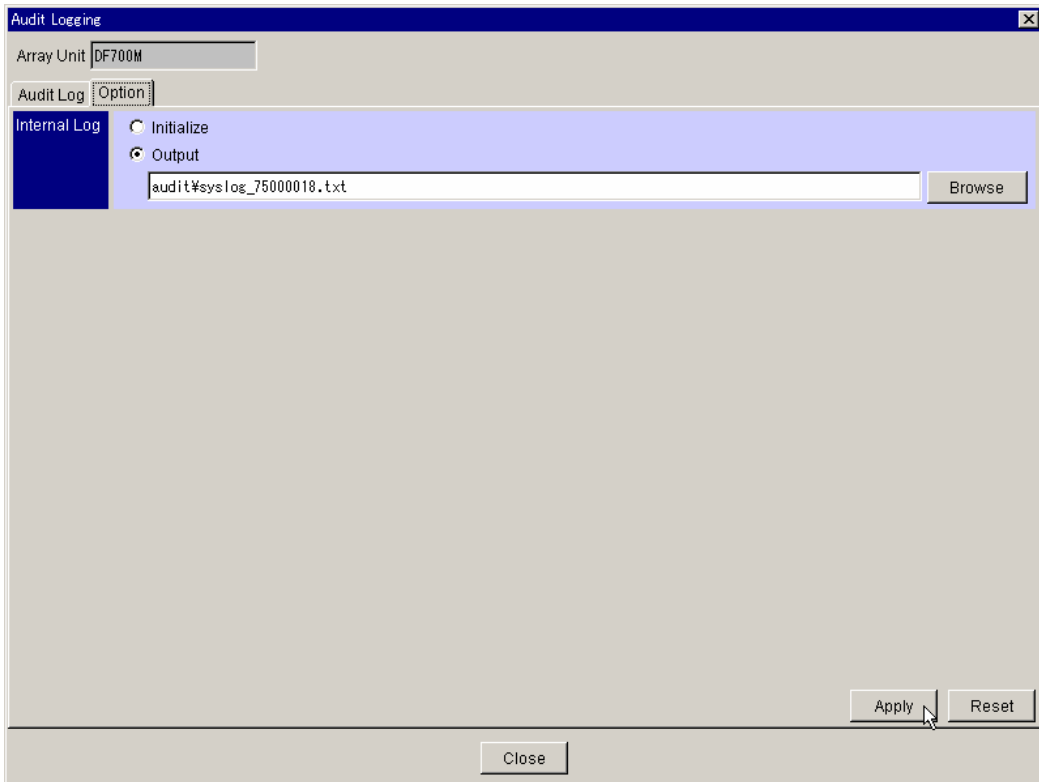

Figure 4.17 Configuring the Internal Log Output
3. Select the **Option** tab (see Figure 4.17). Either specify the file output path and output name or select **Browse** to specify the output destination file.